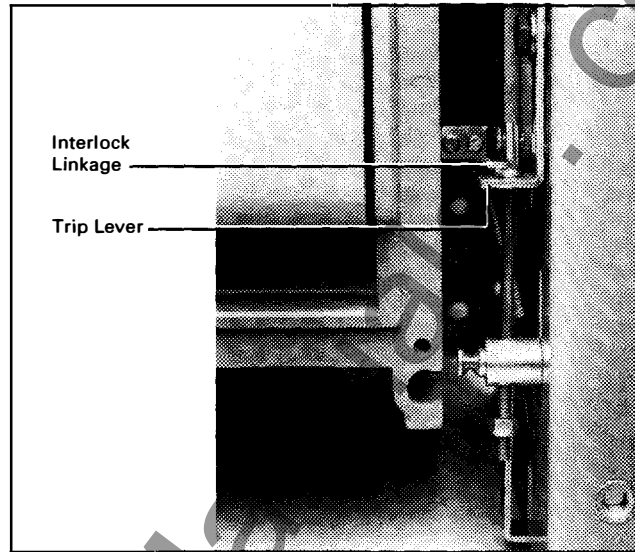
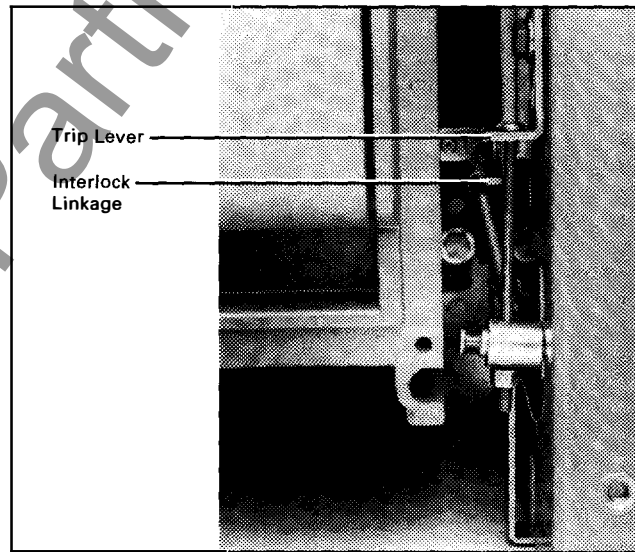

Fig. 10. Proper Placement - Interlock Linkage Above Trip Lever (Front View with Dead Front Cover Removed)
Fig. 11. Improper Placement - Interlock Linkage Below Trip Lever (Front View with Dead Front Cover Removed)
**Note:** In order for the interlock mechanism to operate properly, it is critical to ensure that the interlock linkage rests above the trip lever on the drawout carriage. See Fig. 10. Fig. 11 shows the interlock linkage positioned improperly. Always check the position of this lever before placing the breaker in service.